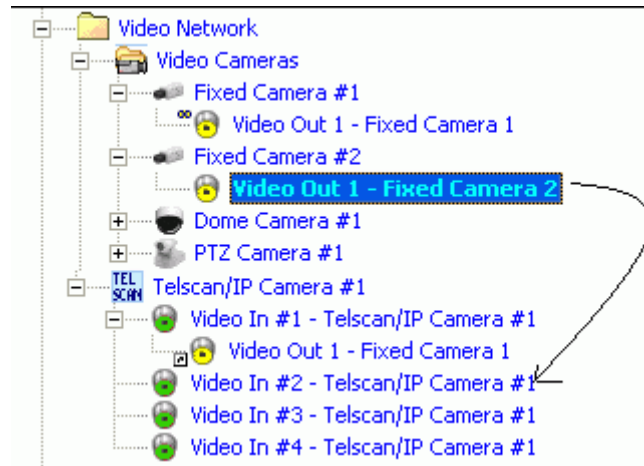

Fig 12 Connecting cameras to TELSCAN
4. Drag and drop the **Video Out** signal to a **TELSCAN Video In** node (Fig 12).